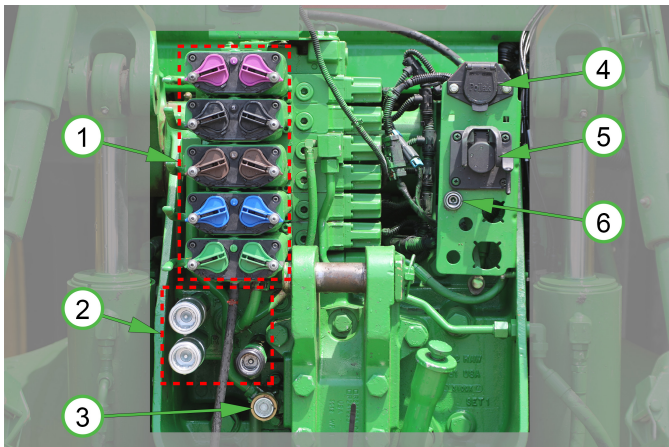

Figure 5
Connect the drawbar hydraulic hoses to a Selective Control Valve (SCV) port on the tractor. (See Figure 2 and Figure 5)
Connect the (1) Tractor ISOBUS cable connector to the Implement Bus Break-away Connector (IBBC) port on the tractor. Confirm that the (2) *CAN Disconnect B* and (3) *CAN Disconnect A* connectors are securely connected. (See Figure 3 and Figure 5)
The rear of a typical tractor provides the identified ports: (1) SCV, (2) Power Beyond, (3) Case Drain, (4) Tractor Lights, (5) IBBC, (6) Load Sense. Available ports, their arrangement, and their color designations vary by tractor manufacturer and model. (See Figure 5)